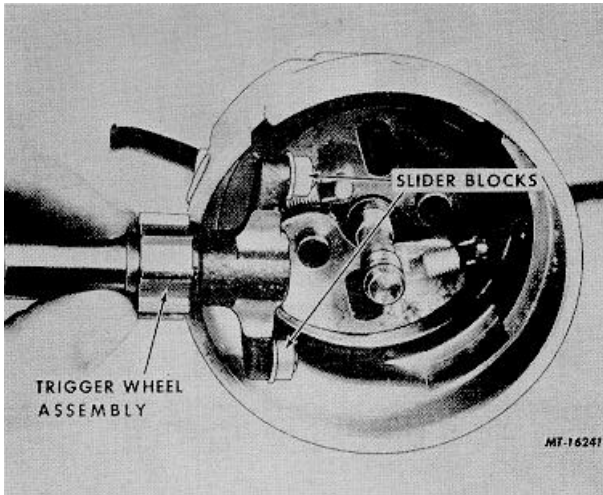

Fig. 22 Removing Trigger Wheel Assembly
10. Slide trigger wheel assembly from distributor shaft and remove slider blocks (Fig. 22).